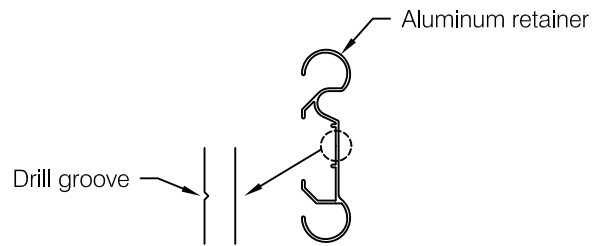

fig 2
**Step 3** Layout retainer “face up”, mark and drill bracket mounting hole locations. Use groove in retainer to locate centerline for drilling, see **fig. 2**. Bracket mounting holes must be spaced: